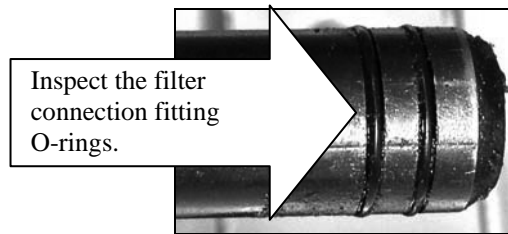

Figure 2
2. Inspect the filter pan connection fitting to ensure that both O-rings are in good condition (see Figure 2).
3. Inspect the filter pan connection fitting to ensure that both O-rings are present and in good condition. (See Figure 2 above).